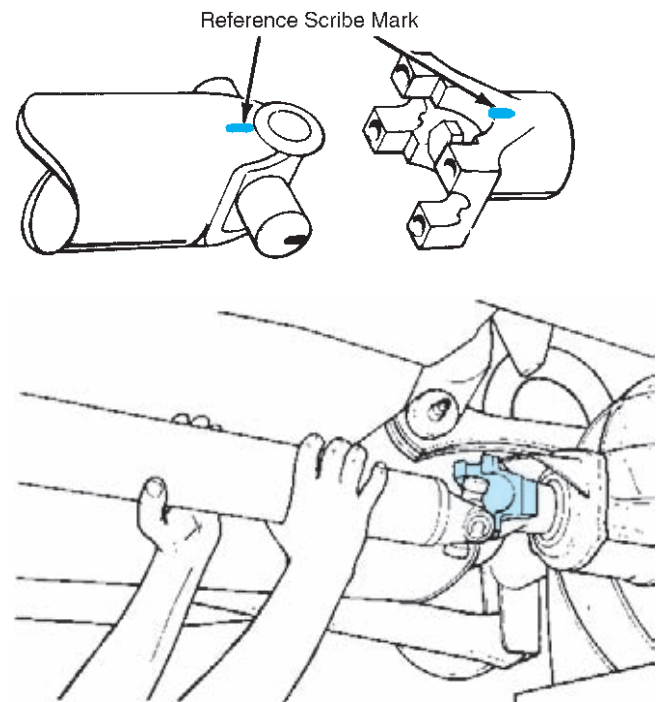

FIGURE 10-37 Before removal, make index marks at the rear U-joint so that the shaft can be replaced in its original position. (Courtesy of Ford Motor Company)
2. Place index marks at the rear U-joint flange and rear of the shaft so that the shaft can be replaced in this same position (Figure 10-37).